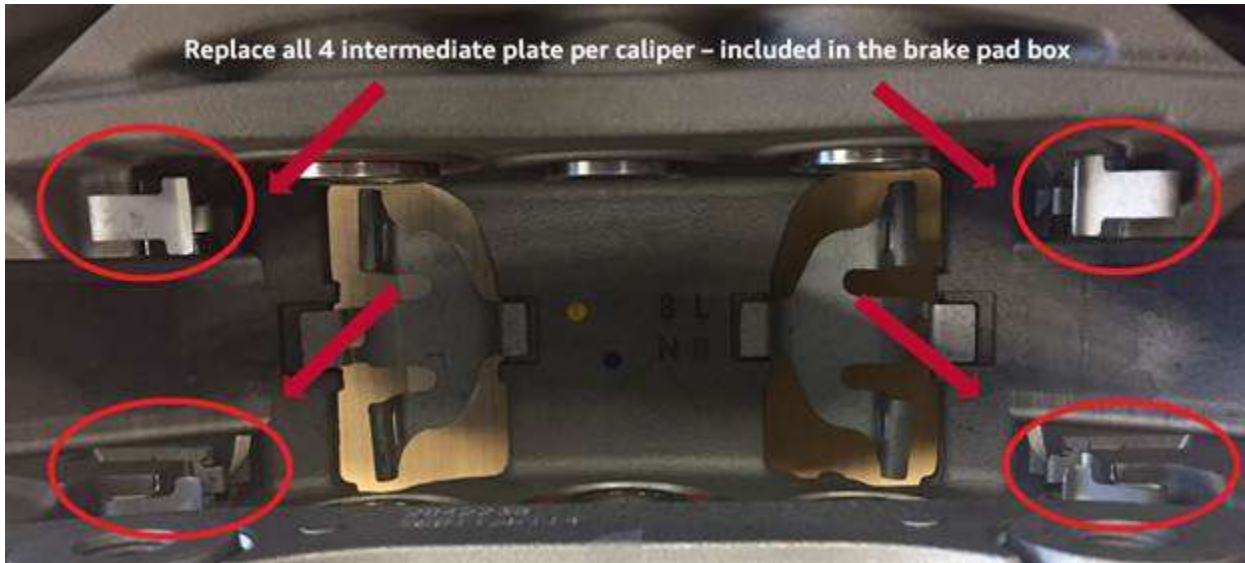

Figure 6. Replace all 4 intermediate plates.
6. It is mandatory to replace all 4 brake pad intermediate plates per caliper – included in the brake pad box (Figure 6).